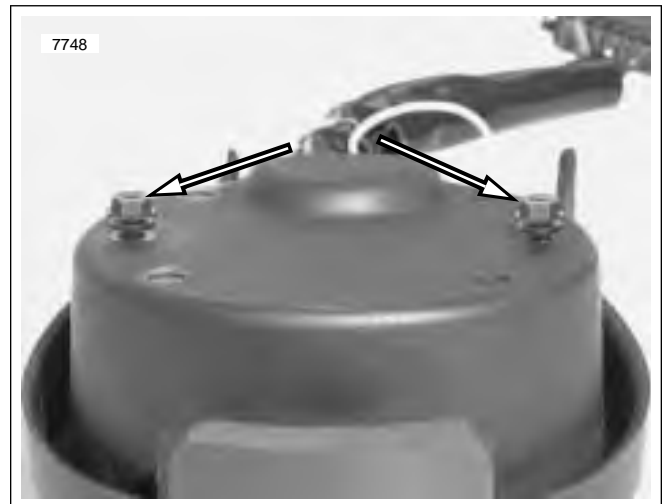

**Figure 7-80. Speedometer**
1. See Figure 7-80. Remove two fasteners holding dash panel to upper triple clamp.